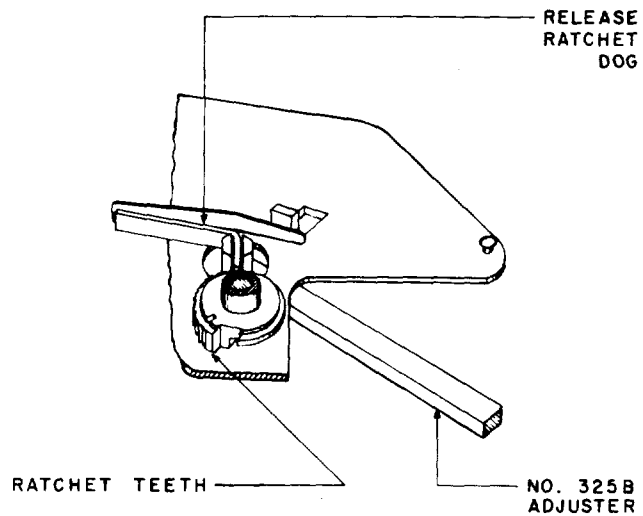

Fig. 18—Method of Adjusting for Relation of Wiper Spring Tips to Bank and Bank Contacts Using 325B Adjuster
(2) Failure of the wiper spring tips to rest approximately on the center of each bank contact with respect to the width of the contact may be due to misalignment of the tips of the pair of wiper springs. If the tips are misaligned and the wiper assembly is tight, replace the wiper assembly as covered in Section 026-708-801. However, if the wiper assembly is loose, proceed as follows. Position the pair of wiper spring tips so they are in proper alignment with each other and with the bank contacts. Then securely tighten the nut just above the wiper springs with the 417A wrench, taking care that the wiper spring tips are not misaligned. Recheck requirements 2.08 and 2.09.
(3) If the wiper spring tips are in alignment and requirement 2.08(b) is not met, the condition may be corrected by repositioning the bank as covered in (1) or, if only a slight adjustment is necessary, by adjusting the tip of the release ratchet dog with the 325B adjuster. Apply the adjuster through the circular opening in the bottom of the base as shown in Fig. 18, and move the adjuster slightly toward or away from the bank as required. This adjustment will change the angle of the tip of the release ratchet dog. If the wiper spring tips are too far to the left of the center of the contact, move the adjuster slightly toward the bank. If the wiper spring tips are too far to the right of the center of the contact, move the adjuster away from the bank. After making this adjustment, see that the clearance between the release ratchet dog and the ratchet teeth and the release armature stroke is satisfactory.
(4) If the backward movement of the wiper spring tip is insufficient or too great or if the release ratchet dog drops into the associated ratchet tooth when the rotary magnet restores from an electrically operated position, adjust the release ratchet dog closer to or further away from the radial face of the tooth using the 325B adjuster as shown in Fig. 18.